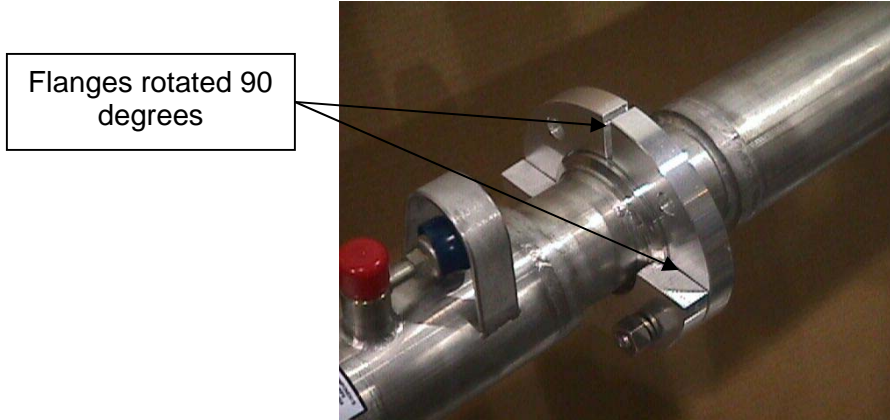

Figure 3.
- 5.) Back-up flanges are installed with left and right sides twisted 90 degrees in relation to each other. See Figure 3.